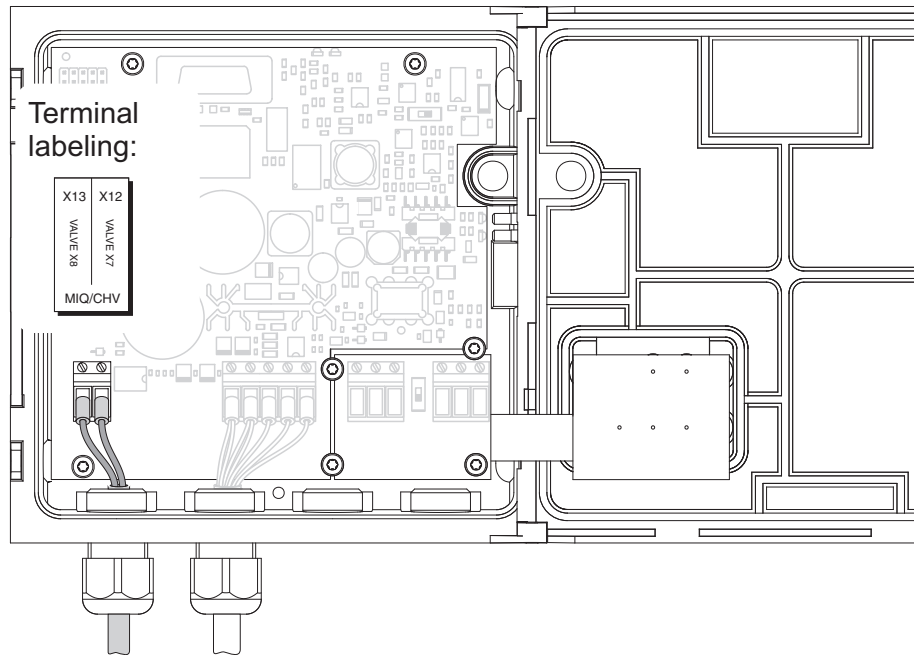

Fig. 3-7 Connection of the valve control line in the MIQ/VIS
- 4 Connect both wires of the valve control line to the terminal strip of the MIQ/VIS. Follow the terminal labeling (Fig. 3-7).